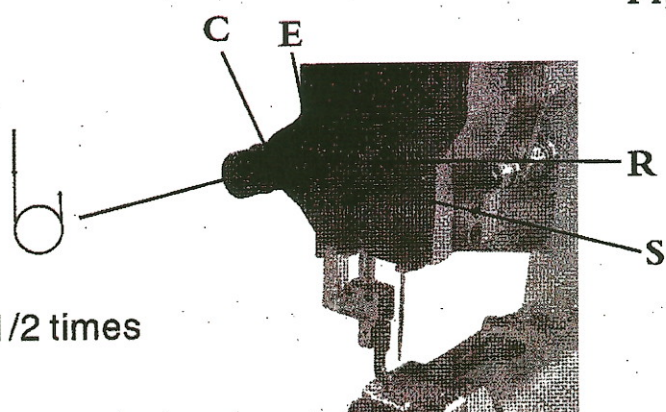

Fig.3
- Anti-clockwise 1 1/2 times around the thread tension wheel of the control button C, as show in Fig. 3.
- Over the thread spring seat E, as show in Fig. 3.
- Through the hole of thread guide hook R, as show in Fig. 3.
- Through the thread guide S, as show in Fig. 3.